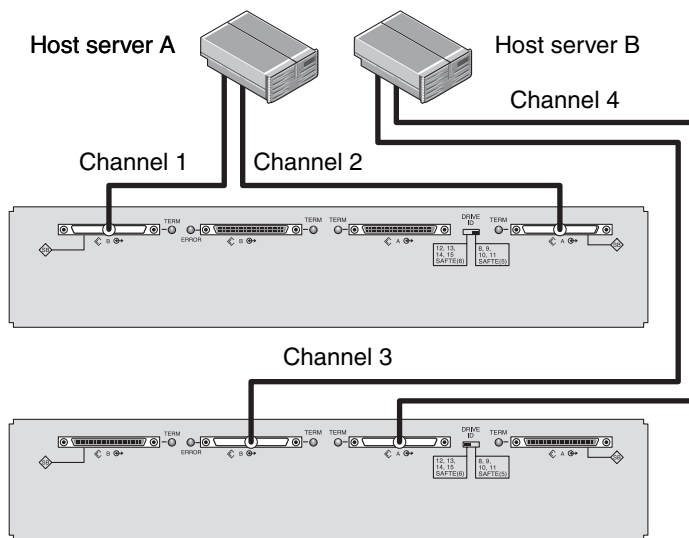

FIGURE 4-13 JBODs Directly Connected to Hosts (Split-Bus)
FIGURE 4-13 shows multiple hosts with multiple JBODs in a split-bus JBOD configuration with two host connections, one host connection to each channel (single-initiator mode). This is an efficient way to provide mirroring capability.
Note – You can connect the cables to the inboard or outboard ports on a JBOD. Both configurations work. **FIGURE 4-13** shows the cables connected to the outboard ports on the upper JBOD and the cables connected to the inboard ports on the lower JBOD.
In FIGURE 4-13, Host A is connected to port B In and port A Out, and Host B is connected to port B Out and port A In. The following table shows the drive IDs for FIGURE 4-13.
1. Connect each JBOD port to a host as shown in FIGURE 4-13.